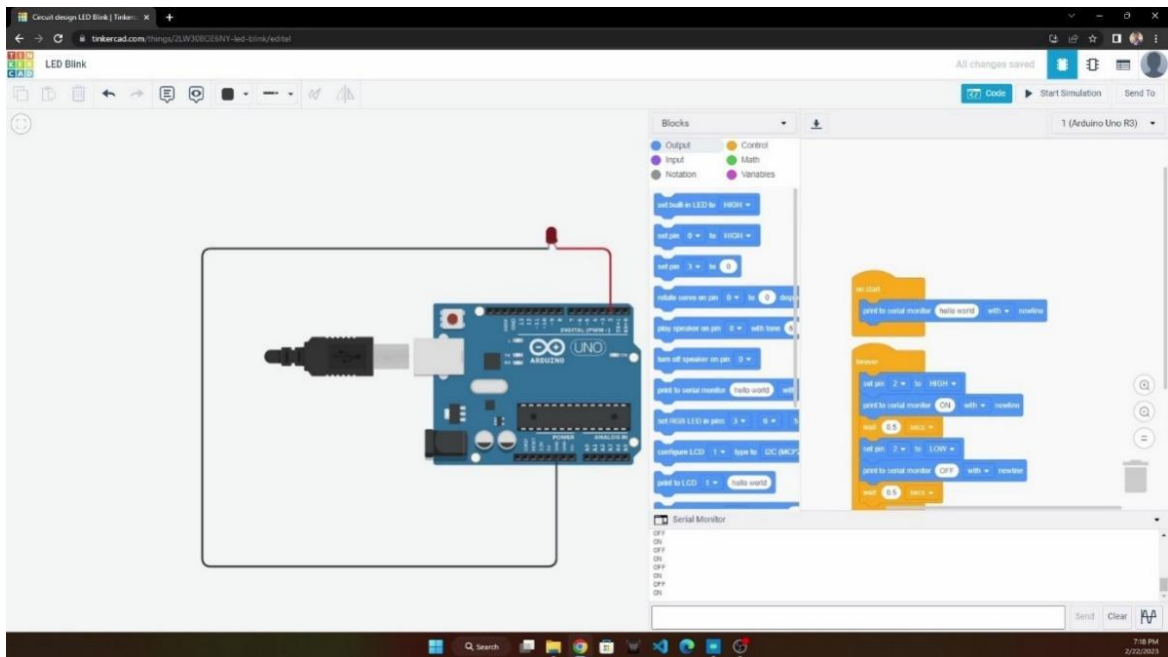

Fig.2.22(ii): LED Blink Circuit
- The Serial Monitor displays the messages LED ON and LED OFF repeatedly (Fig.2.22(ii)).